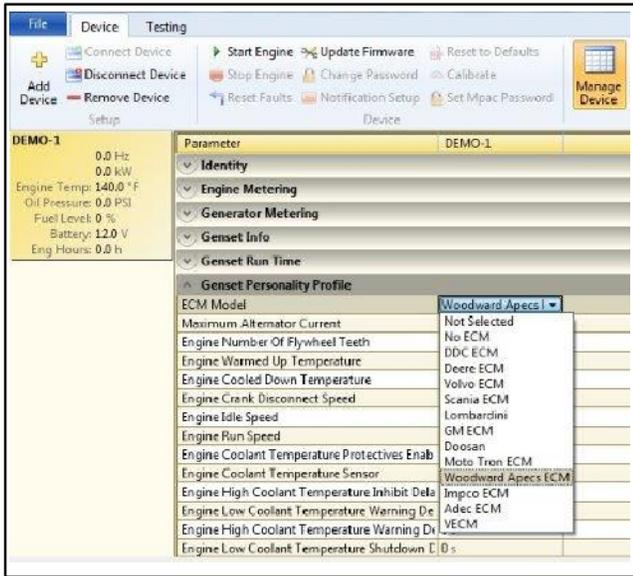

Figure 12 Genset Personality Profile Parameter
4.9 Use SiteTech™ version 4.3.xx or newer and under the **Genset Personality Profile** parameter, change the **ECM Model** to **Woodward APECS ECM**. See Figure 12.